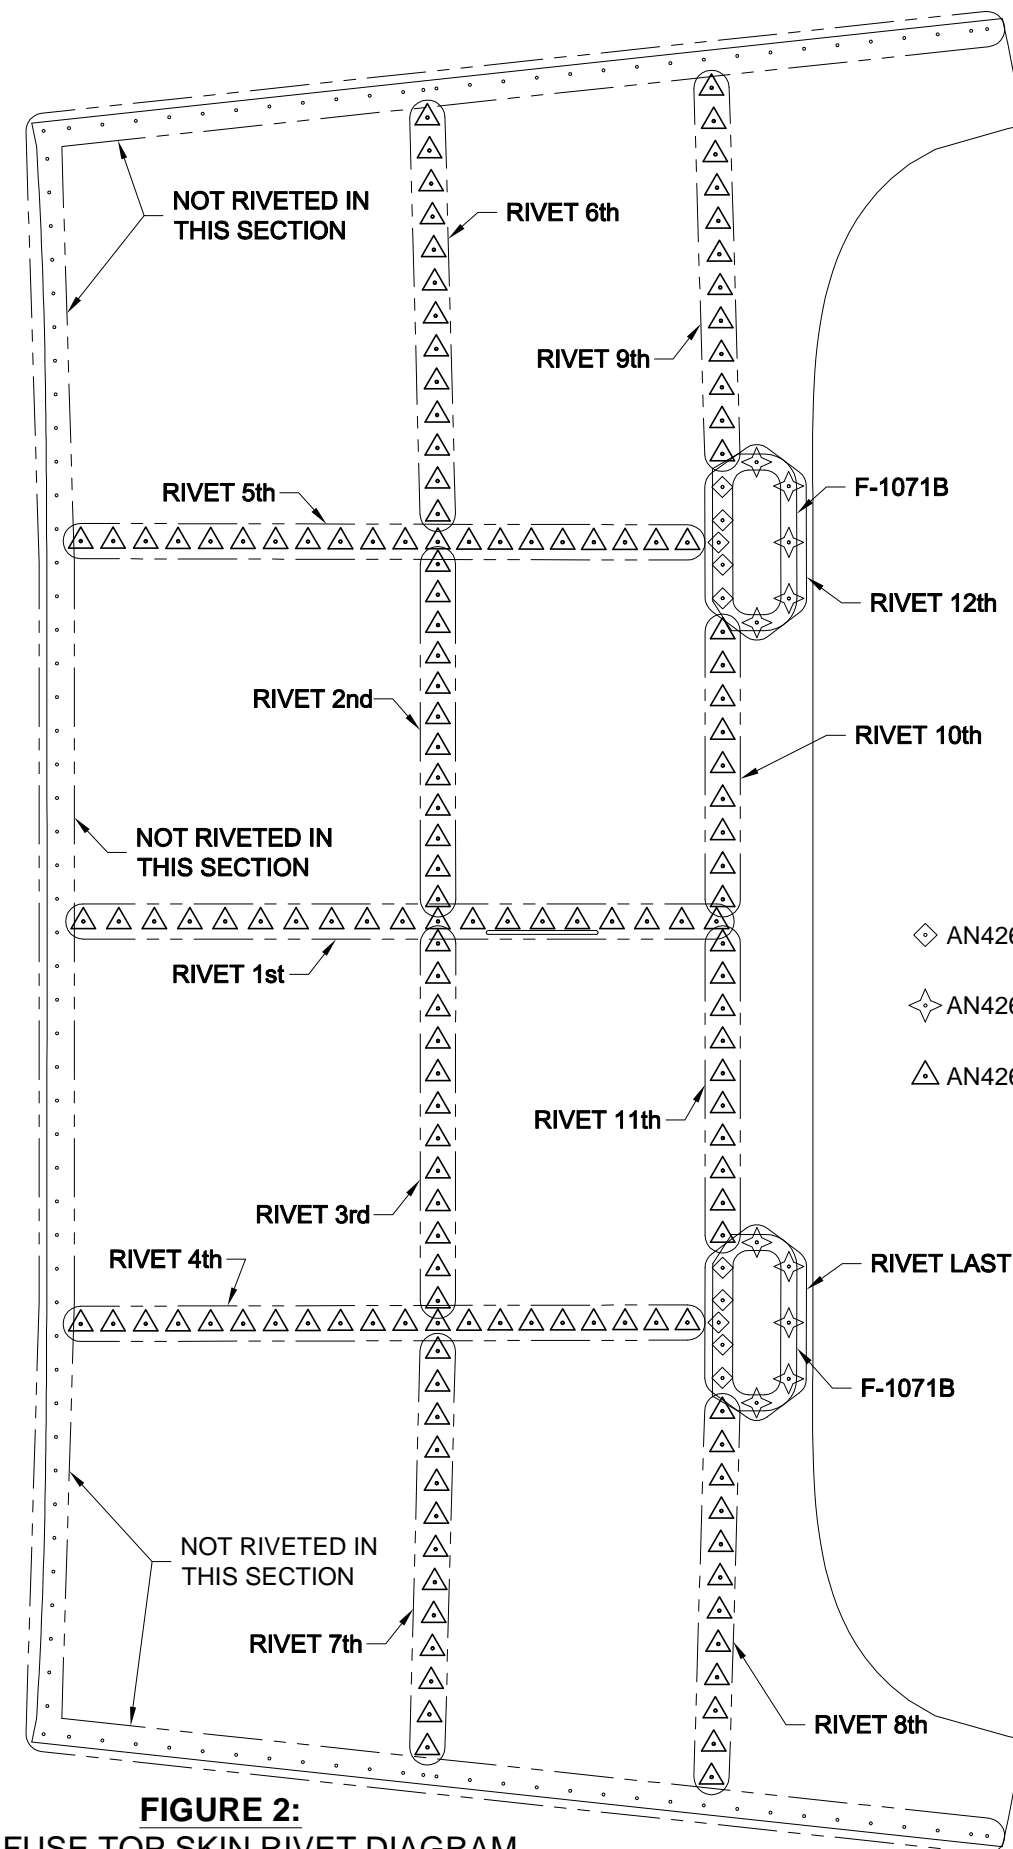

FIGURE 2:
Step 3: Rivet the F-1071 Fwd Fuse Top Skin to the Sub Panel/Fwd Fuselage Rib Subassembly using the rivets and riveting sequence shown in Figure 2.
Install the rivets sequentially beginning with the rivet row labeled "RIVET 1st" through the rivet row labeled "RIVET 5th" only. See Figure 2.
Install the rivets in the rivet rows labeled "RIVET 6th" and "RIVET 7th" beginning each row with the most inboard rivet and progressing outboard. See Figure 2.
Step 1: Rivet the F-1003C-L & R Inst Panel Attach Flanges to the F-1071 Fwd Fuse Top Skin as shown in Figure 1. Use the rivets and riveting sequence shown in Page 31-9Q, Figure 2.
Step 2: Rivet the F-1003D and F-1003E Inst Panel Attach Flanges to the F-1071 Fwd Fuse Top Skin as shown in Figure 1. Use the rivets and riveting sequence shown in Page 31-9Q, Figure 2.
Step 3: Rivet the two F-1071B Hand Hold Doublers to the F-1071 Fwd Fuse Top Skin as shown in Figure 1. Use the rivets shown in Page 31-9Q, Figure 2.